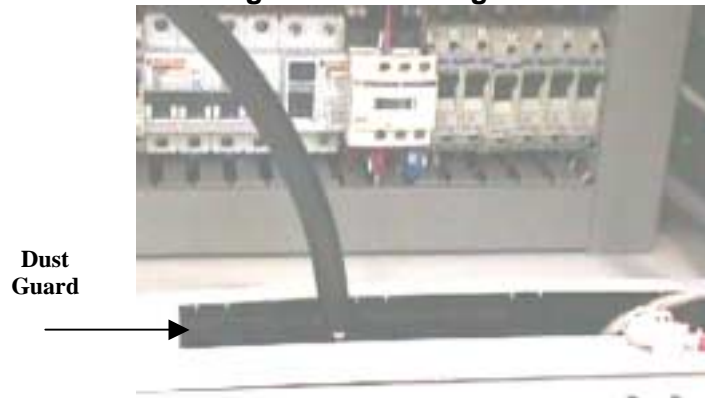

Figure 2.29 Dust Guard detail
2. The Dust Guard should then be replaced. See fig 2.29.